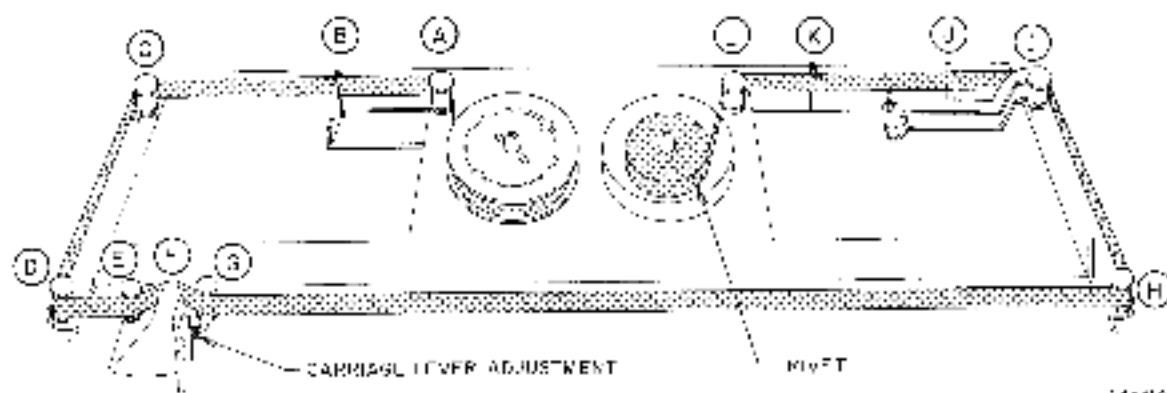

Figure 2-9 Ribbon Installation
6. Place the full spool on the left spindle and turn clockwise until it drops into position (Figure 2-9).